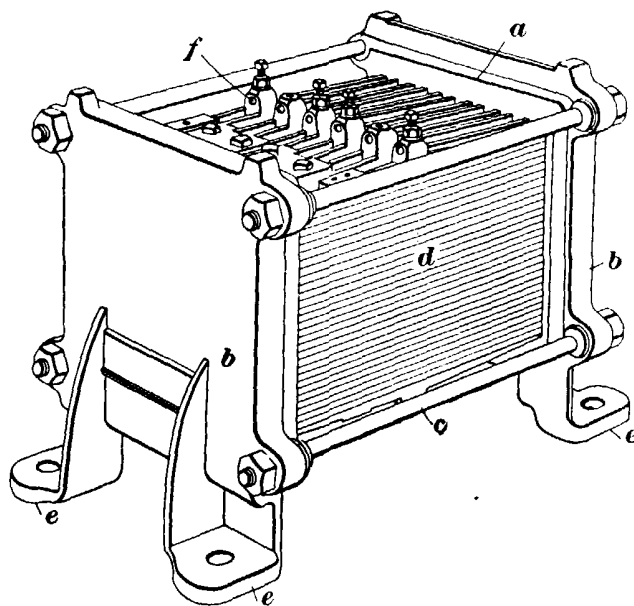

FIG. 30.
28. General Electric Resistance Coil.—Fig. 30 shows a type of starting coil made by the General Electric Com-